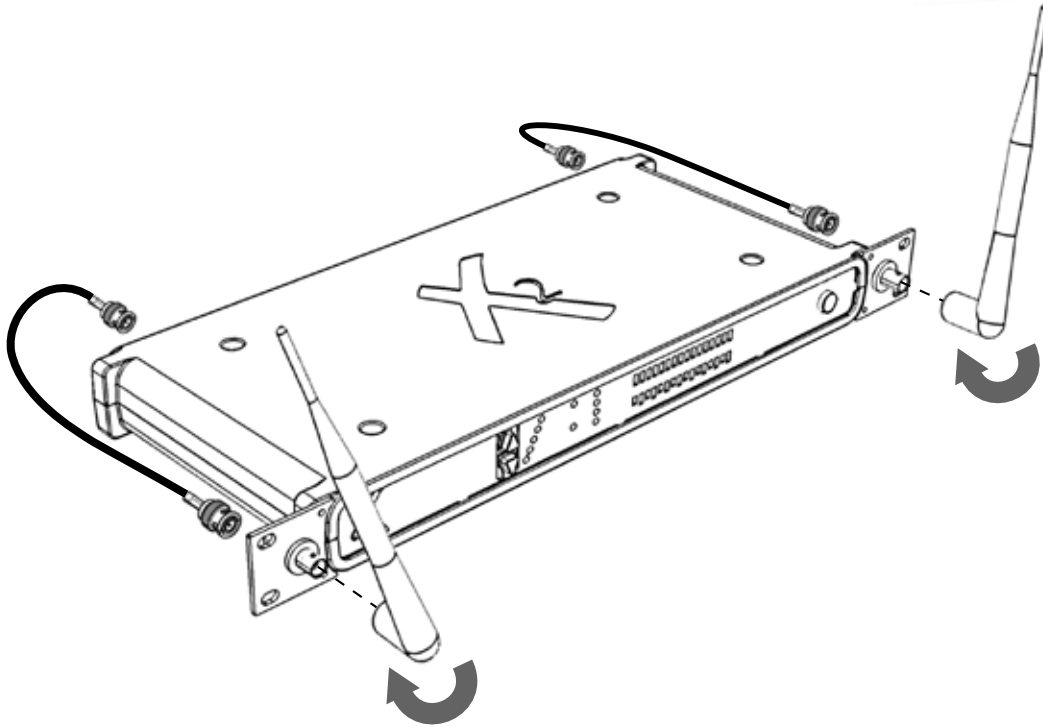

FIGURE 9
1. Connect the supplied BNC patch cables to the Antenna A and B inputs located on the back panel of the receiver and twist clockwise for $\sim 1/2$ turn then connect the other end to the BNC connector located on the back side of each rack ear and twist clockwise for $\sim 1/2$ turn. Finally, connect the 1/2 wave antenna by pressing on the BNC connector on the front side of the rack ear and twisting clockwise for $\sim 1/2$ turn as shown in figure 9.